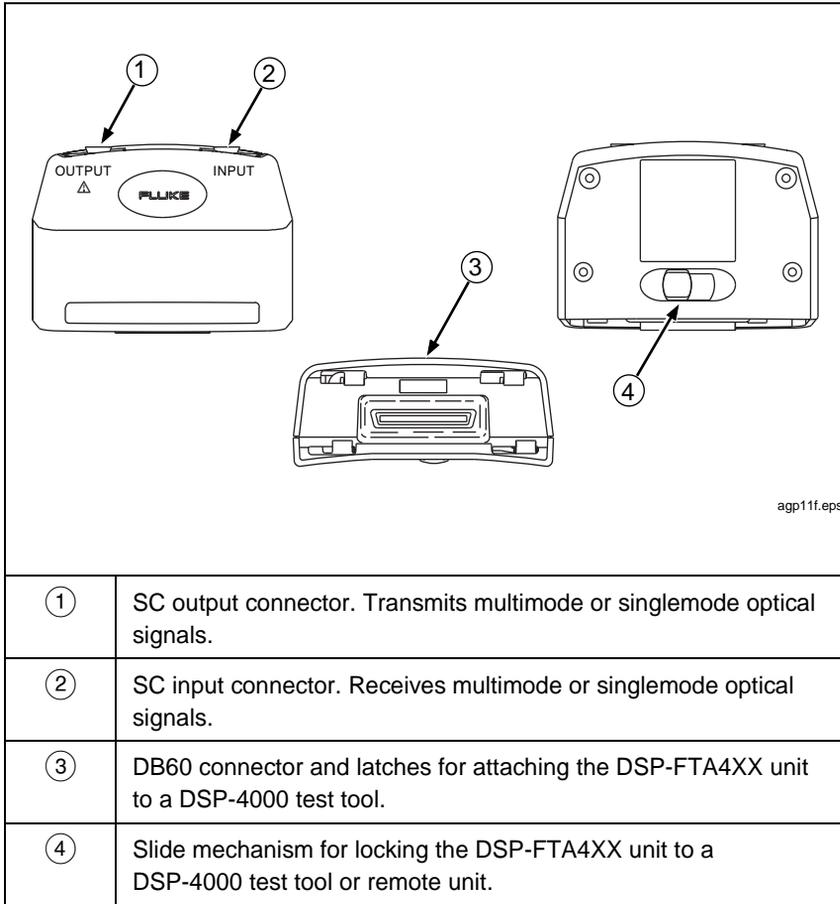

Figure 2. Features of the DSP-FTA4XX Fiber Test Adapter
- **Never look directly into optical output connectors (see Figure 2). Some sources produce invisible radiation that can permanently damage your eyes.**
Figure 2 describes the features of the DSP-FTA4XX Fiber Test Adapter.